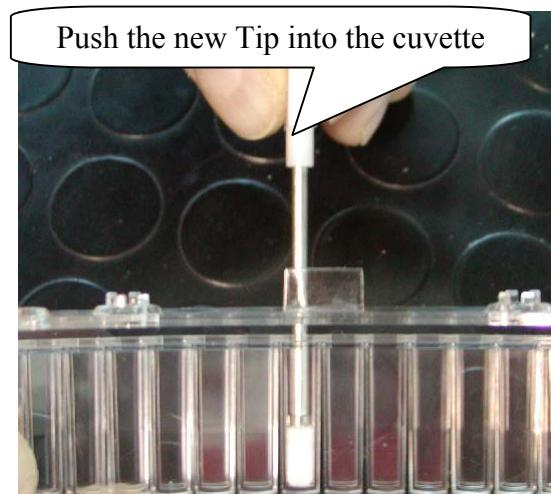

Fig. 9
6. Insert the cannula containing the new Tip into a cuvette, pushing it down inside until it takes on the shape of the inside of the cuvette (Fig. 9).